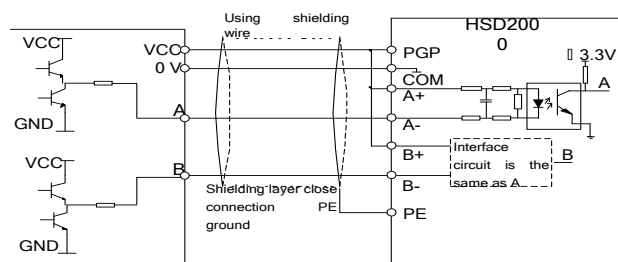

Figure 4-26: Push Pull Signal PG Wiring Schematic Diagram
2. PG output signal is push pull signal. Connection with interface board terminal is shown as figure 4-26 below: